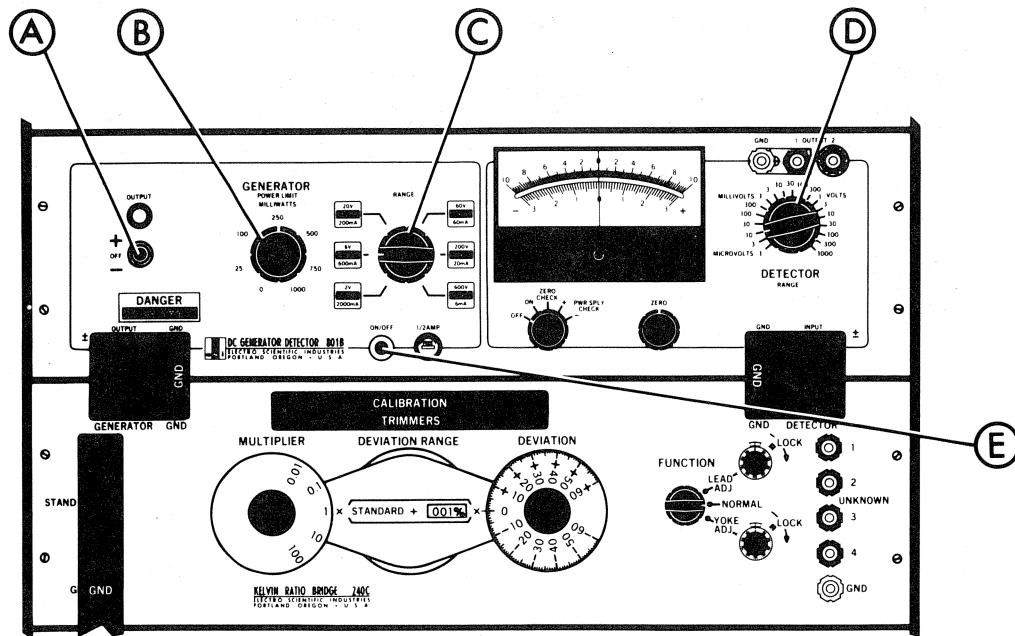

Figure 5-2. Generator-Detector Dial Settings
1. Set the Model 242D Generator-Detector controls to measure a 10 ohm resistor. Reference Figure 5-2.